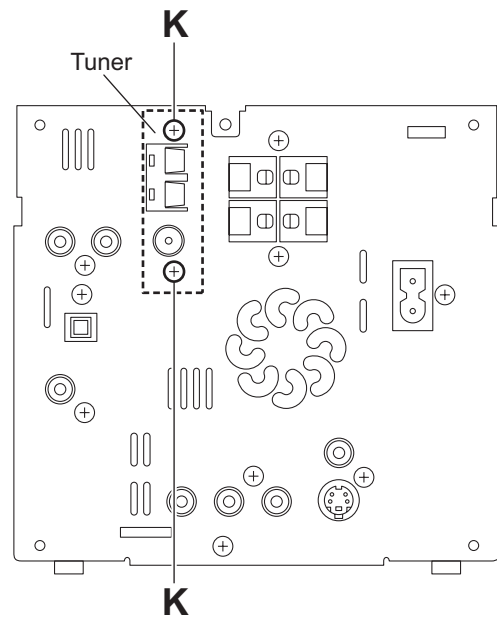

Fig.10
3.1.4 Removing the tuner (See Figs.10 and 11)
- (1) From the back side of the main body, remove the two screws **K** attaching the tuner to the rear panel. (See Fig.10.)